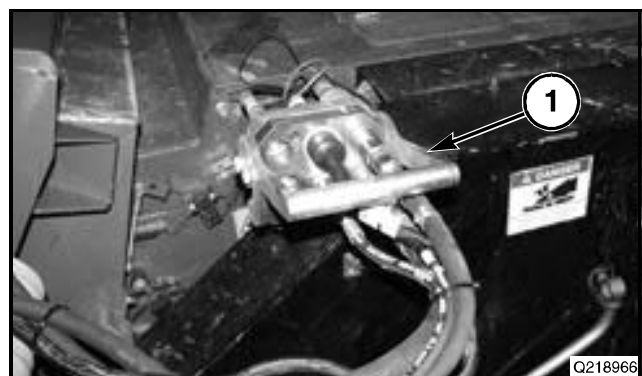

FIG. 22
FIG. 22: Connect the mobile single point connector (1) to the single point connector on the machine. Align the connectors and close the over-center latch locking the connectors together.